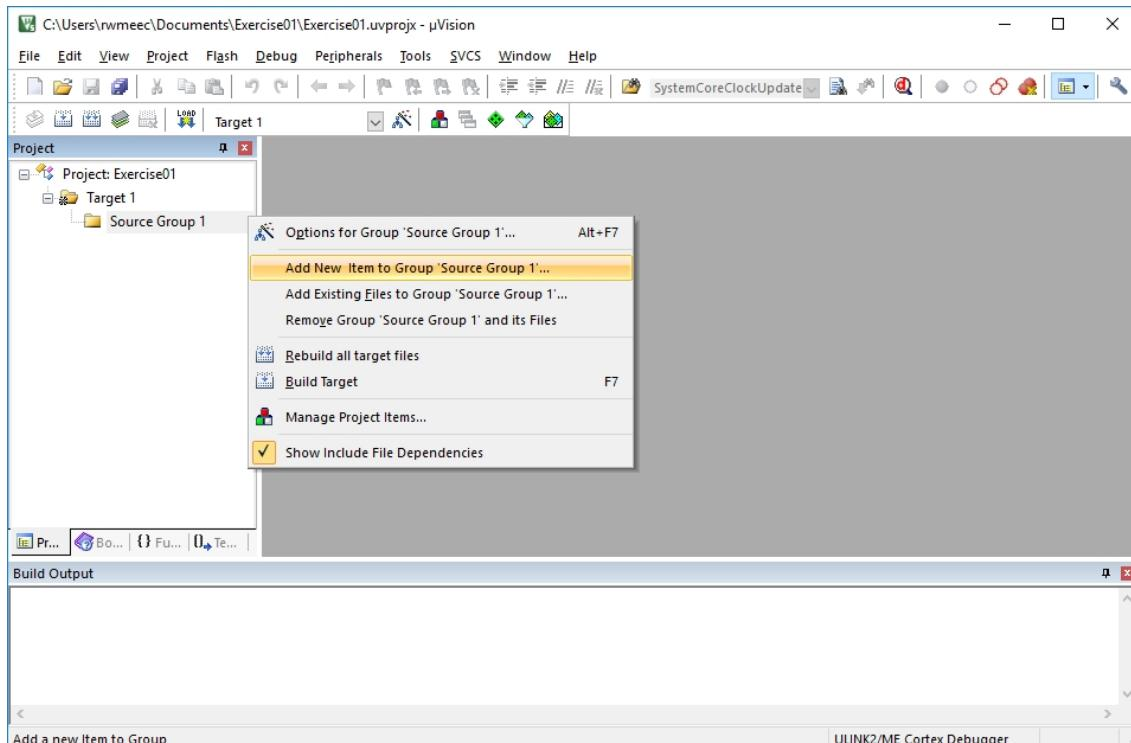

Figure 7. Adding New Item to Project Open in µVision IDE
- The project then opens in Keil µVision IDE, as shown in Figure 7.
- In the Project pane along the left side of the µVision IDE window, click next to Target 1 to show Source Group 1, as shown in Figure 7.